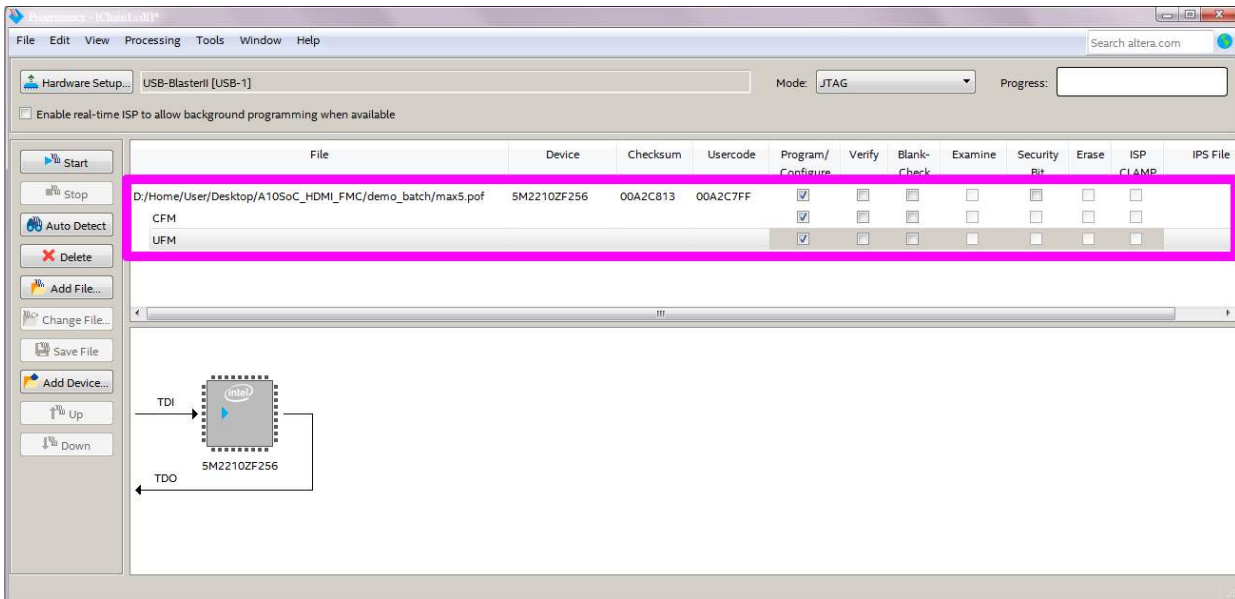

Figure 4-10 Select the max5.pof file
- Select the max5.pof file (in the ...\\A10SoC_HDMI_FMC\\demo_batch folder) into the MAX V device, see **Figure 4-10**.